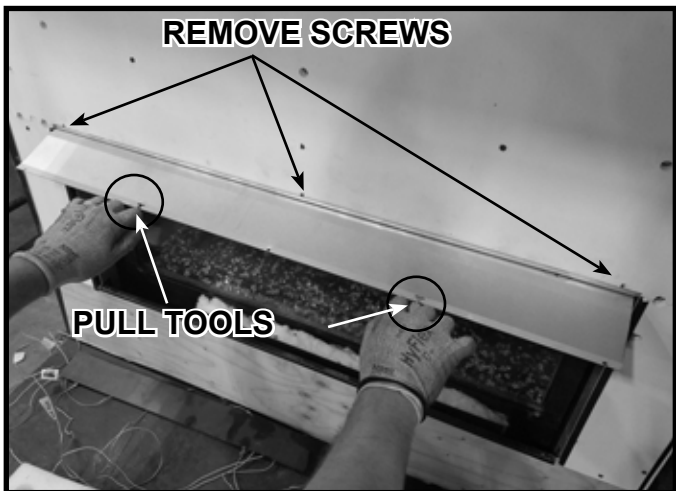
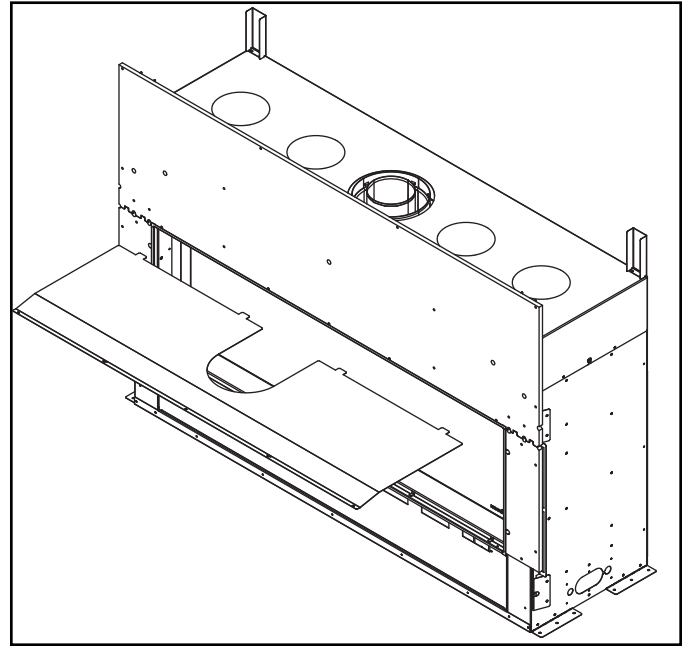

Figure 14 Use Pull Tools to Remove Heat Shield
Figure 15 Remove Heat Shield
4. Remove the screws from the heat shield as shown in Figure 14. Quantity and location of screws will vary between models.
7. Carefully pull the heat shield out of the appliance as shown in Figure 14 and Figure 15. Discard heat shield. Repeat procedure on other side if application is on a see-through appliance.